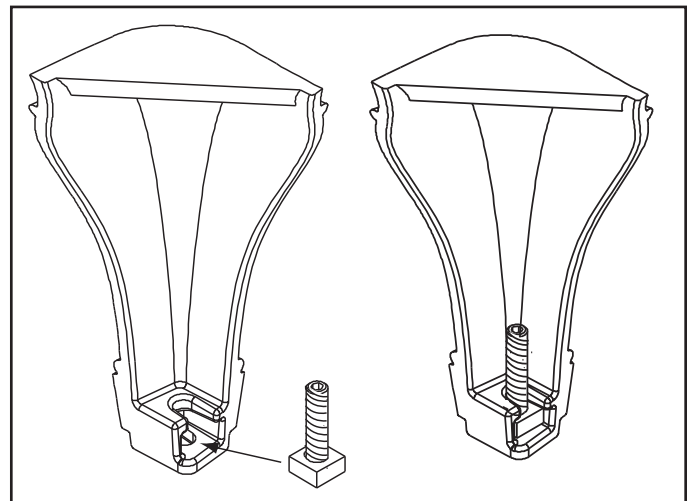

Figure 21.3
9. Slide allen bolt/nut assemblies into slots of two of the legs with the nuts on the bottom (**Figure 21.3**).